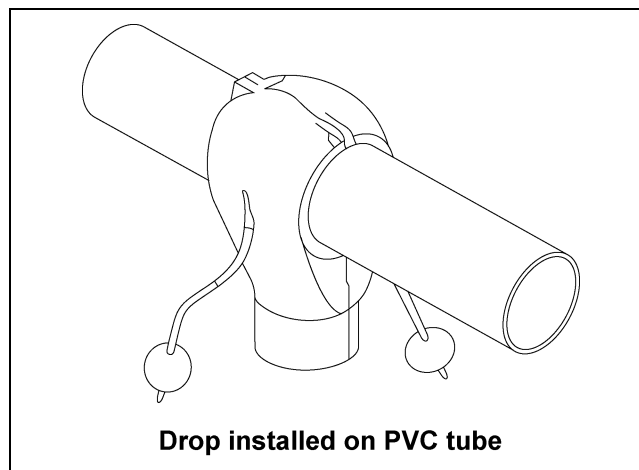

Figure 5N
4. Position the drop halves around the rotary slide and attach both halves together with the hardware provided as shown in Figure 5N.
9. Two (2) screws are supplied for attaching an optional drop tube. *(See Figure 5N on Page 23.)* Use both screws to attach the drop tube securely to the drop kit.